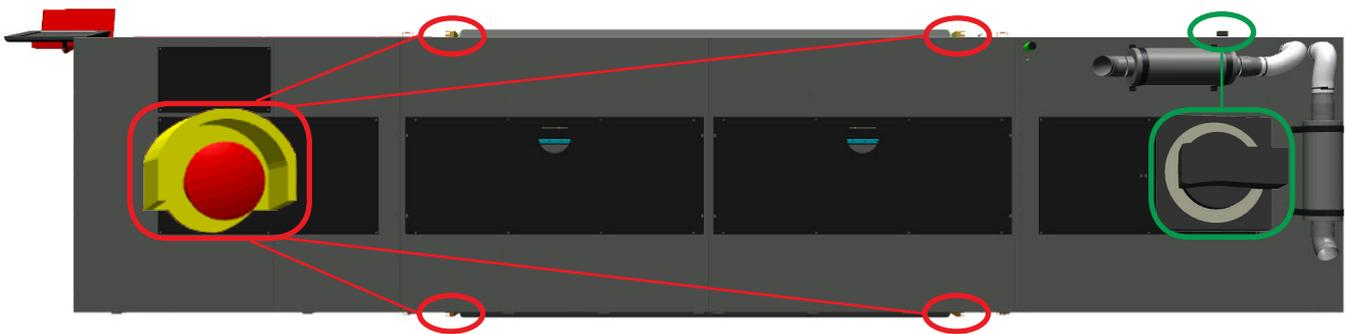

Fig.4-1: E-stop Button Location and Power Switch
- Step 1: Unlock all emergency stop buttons (*outlined in red in Fig.4-1*)
- Step 2: Turn the main power switch on (*outlined in green in Fig.4-1*).